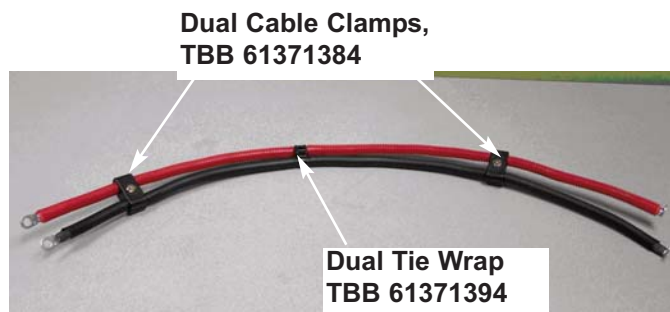
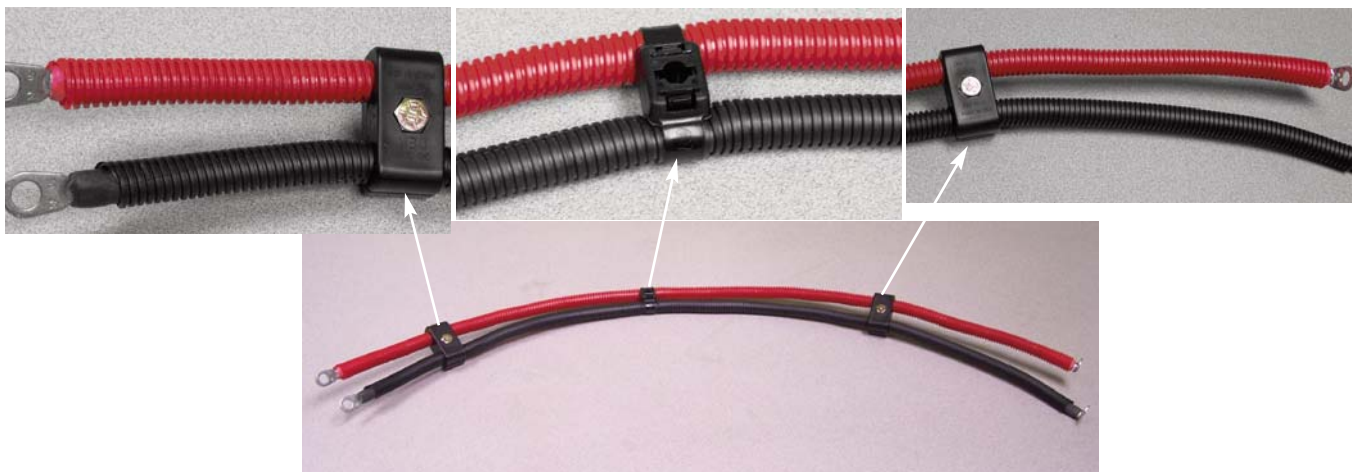

Figure 12
Figure 13
9. Install two (2) Dual Cable Clamps, TBB 61371384 and one (1) Dual Tie Wrap, TBB 61371394 as shown in **Figures 12 and 13**. See overview of completed cable assembly in **Figure 13**.